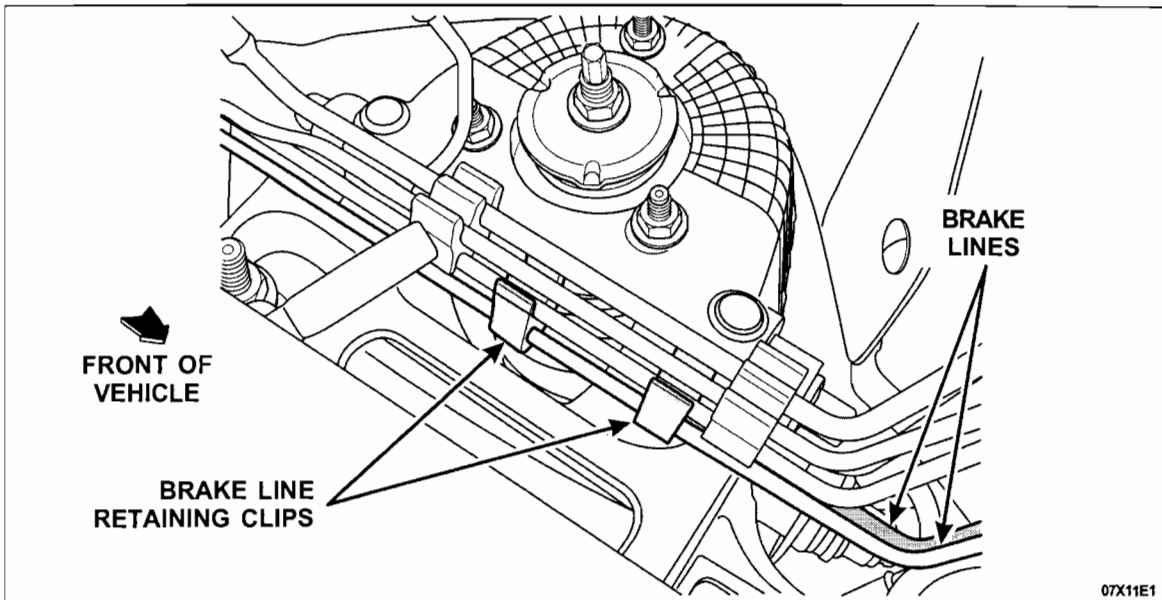

FIGURE 7
5. Re-engage the brake lines into the brake line retaining clips. See Figure 7.